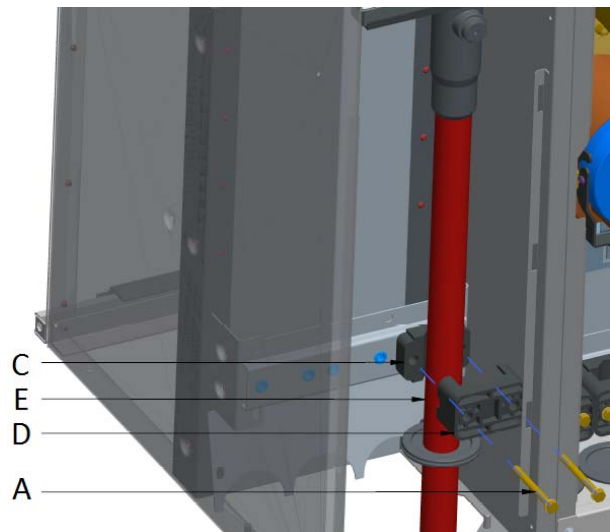

Figure 24: Assembly of the cable supports
- Place the first part of the cable clamp (Figure 24 C) between the cable (Figure 24 E) and the cable support (Figure 24 D).
- Now place the second part of the cable support (Figure 24 B) over the cable and fix the cable support by screwing in the hexagonal tap bolts (Figure 24A) on both sides.